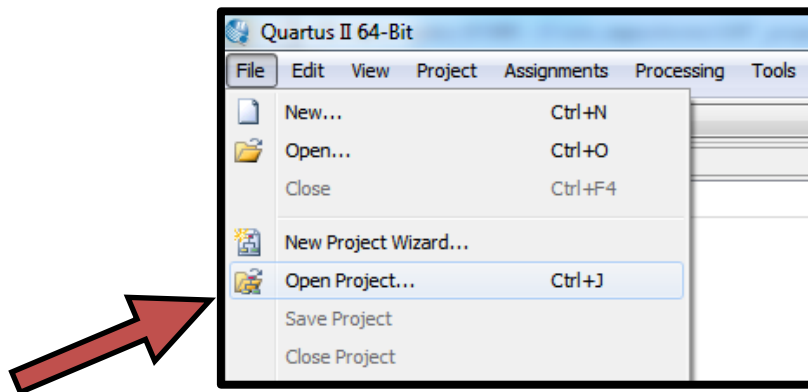

Figure 35: Clicking "Open Project..."
2. Once with Quartus II is open, click on "Open Project..." in the "File" menu on the top left corner (see Figure 35).